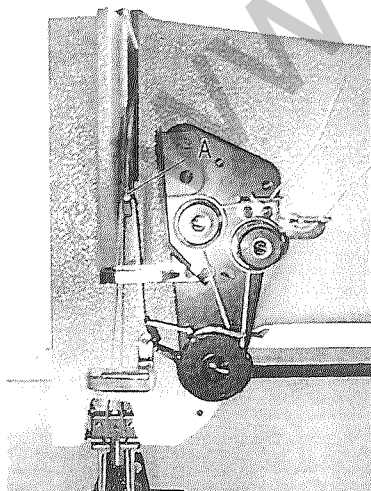

Fig.35
- A. when the connection belt removed from the pulley for adjusting and or replacing purposes of the parts, it should be replaced by the processes, as followings: ( Figs. 35 & 36 )